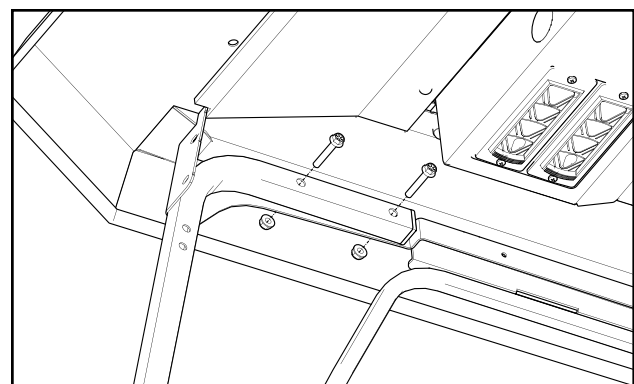

Fig. 4.5 (Vehicle frame tubes)
- 4.5 Install the long bolts from the roof hardware kit through the vehicle frame tubes from the inside then through the roof mounting flange, and a nut on the outside. Leave bolts loose. Figure 4.5.